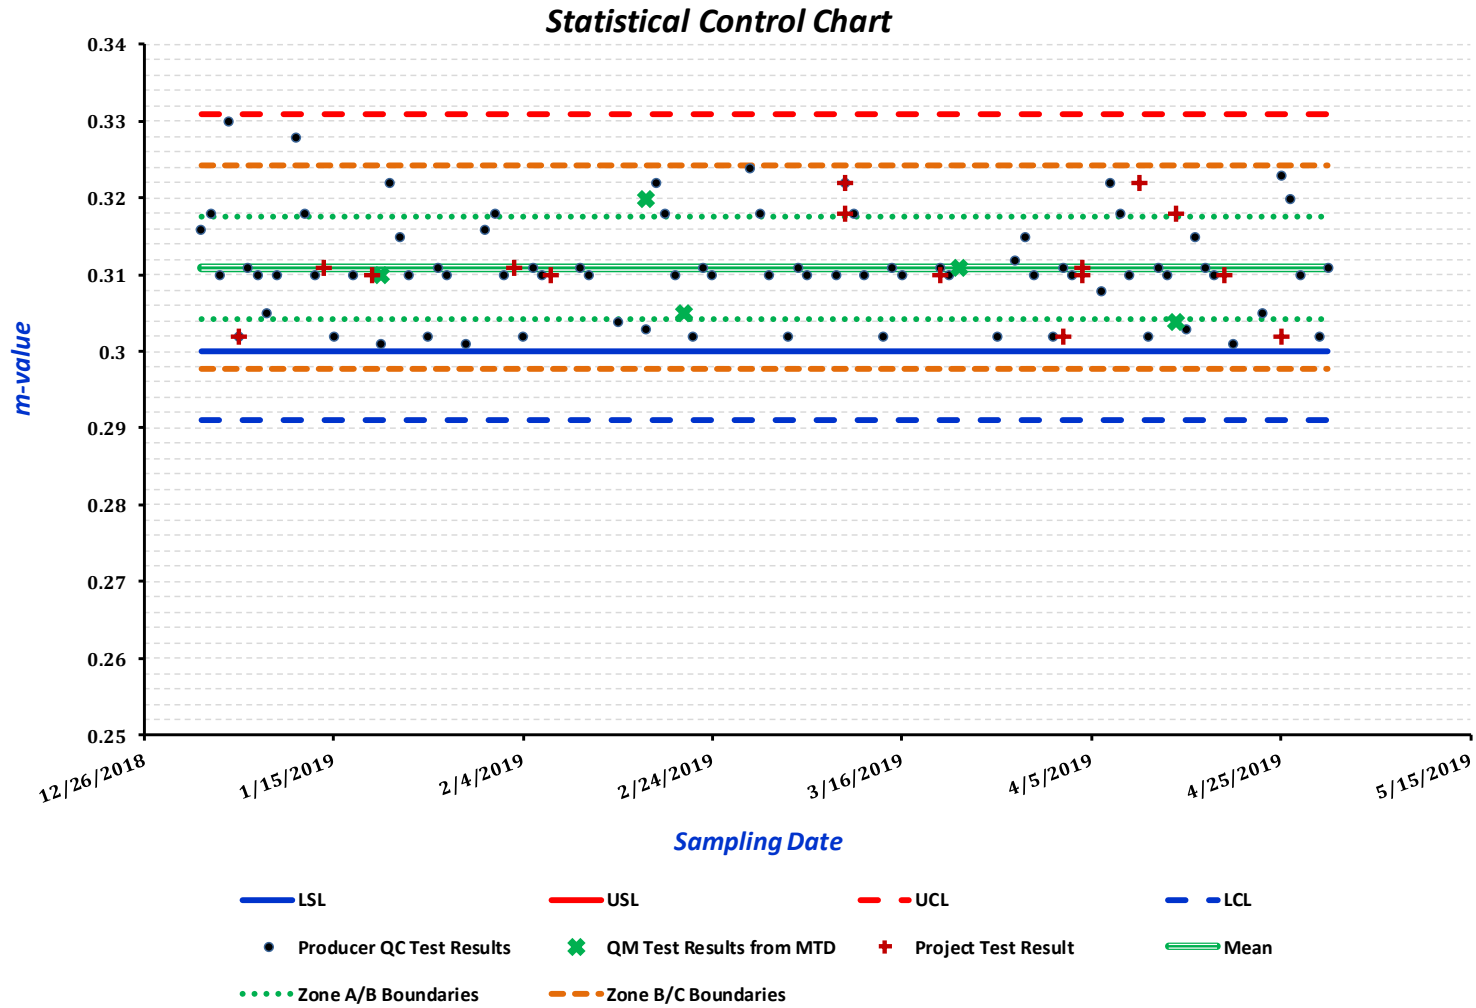

Figure 1—Asphalt Binder Statistical Process Control Chart
- 2.4 Create the Asphalt Binder Statistical Process Control Chart (SPC) by plotting the parameter of interest on the y-axis versus the date of sampling on the x-axis, according to the following instructions. Use a plot similar to Figure 1 for plotting purposes.
- 3.1 Use forms similar to Form 1965, "Asphalt Binder Statistical Process Control Chart," to satisfy part of reporting requirement outlined in Tex-545-C. Form 1965 is provided by MTD to assist with preparation of SPC chart. Figure 1 shows an example of SPC Chart generated using Form 1965.